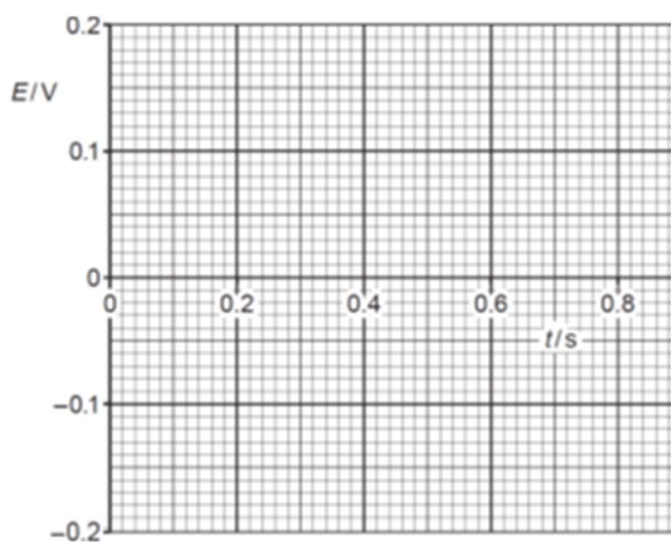

Fig. 4.3
- (ii) On the axes of Fig. 4.3, show the variation with time t of the induced e.m.f. E for time $t = 0$ to time $t = 0.80$ s.